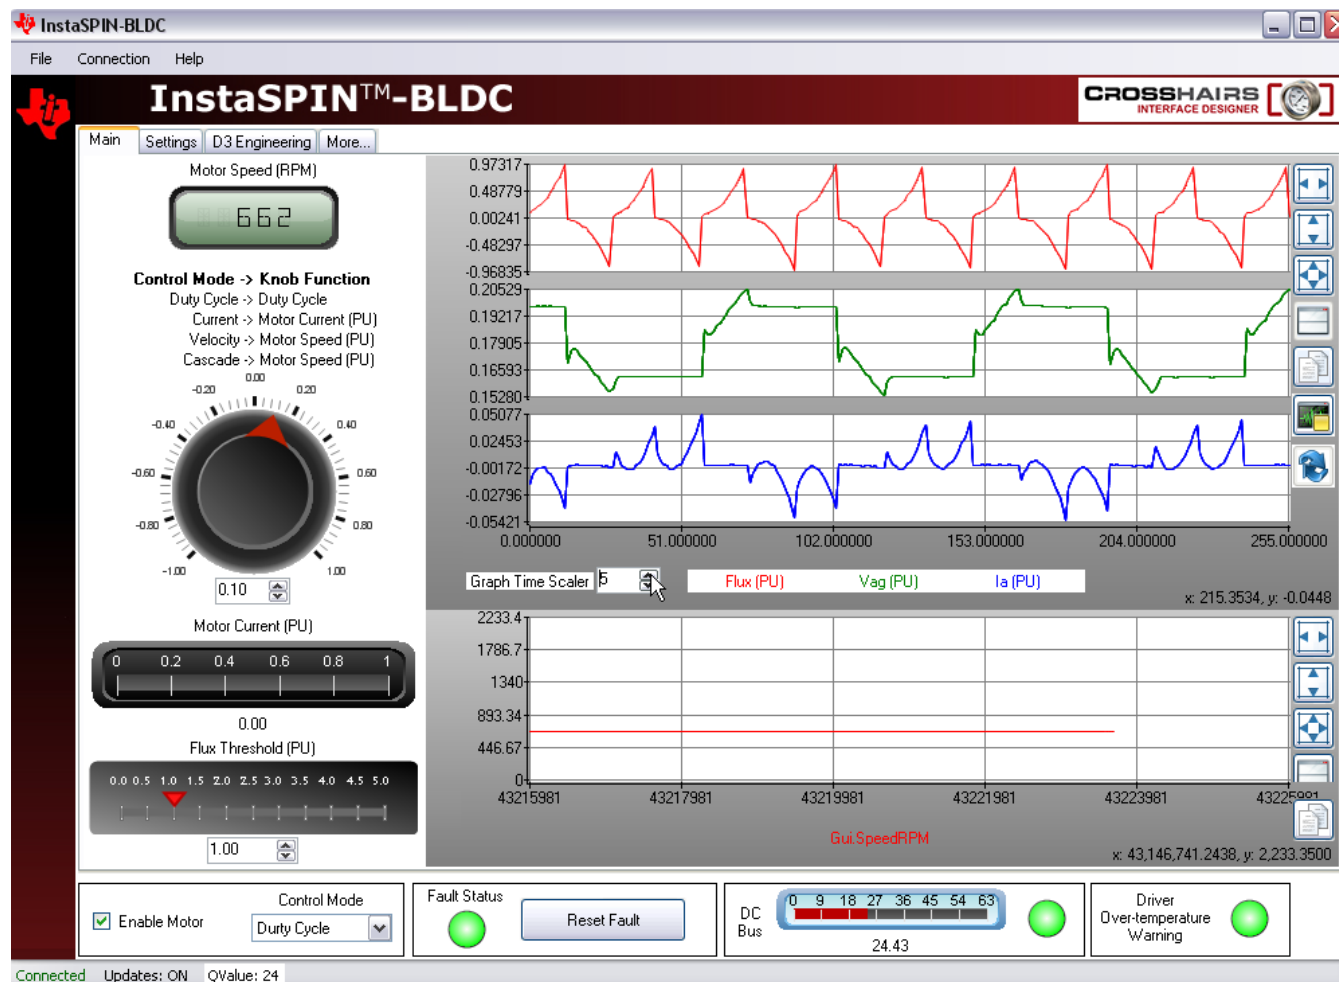

Figure 12. Adjust Graph Time Scale
3. Adjust Graph Time Scale to 5 (see Figure 12):